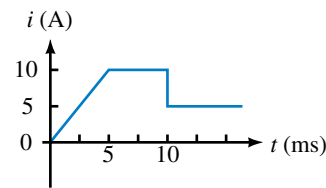

FIGURE 13-33
14. Why is Figure 13-33 not a valid inductor current? Sketch the voltage across L to show why. Pay particular attention to $t = 10$ ms.